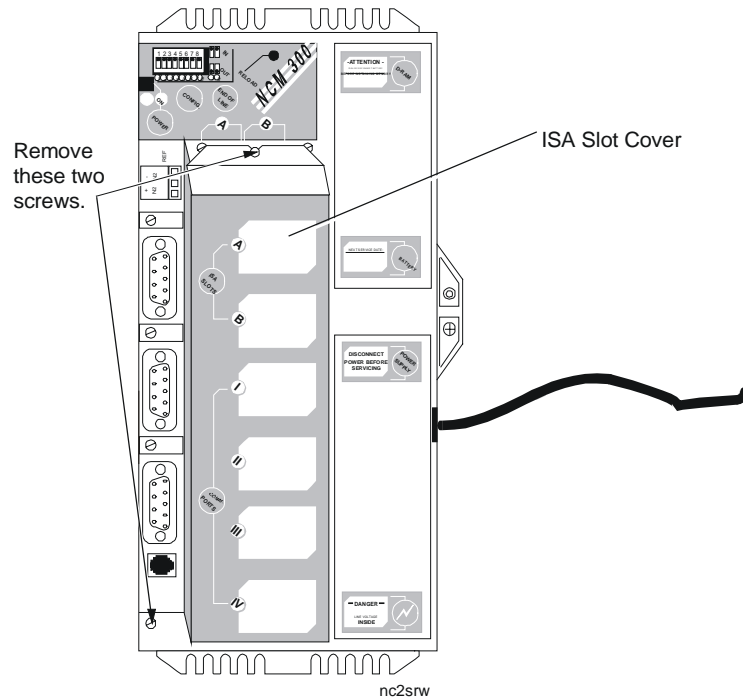

Figure 25: Removing the ISA Cover
2. Remove the ISA slot cover by loosening the two screws that hold the cover on the Fire-Net NCM board (Figure 25). The remaining ISA slot is exposed.